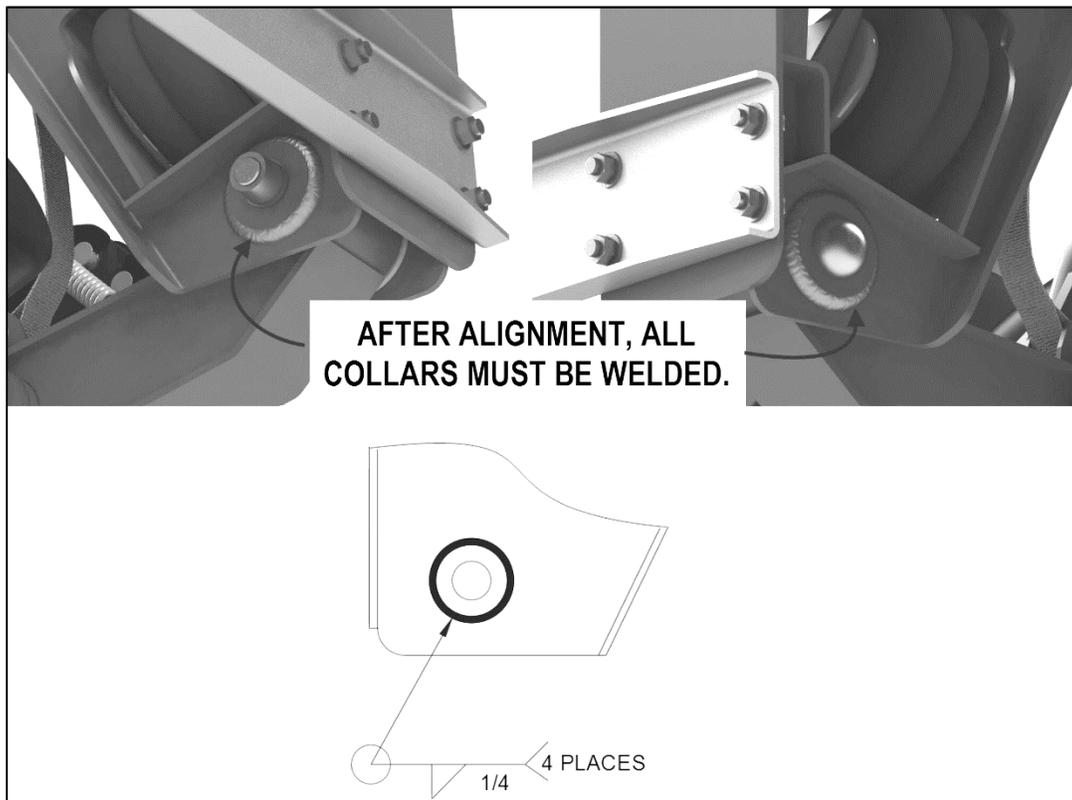

Figure 16
14. Tack weld the passenger side alignment collar to the frame bracket in four (4) places, two (2) places on the inboard side, and two (2) places on the outboard side.
16. Weld all four (4) alignment collars into position as specified (See **Figure 16**).